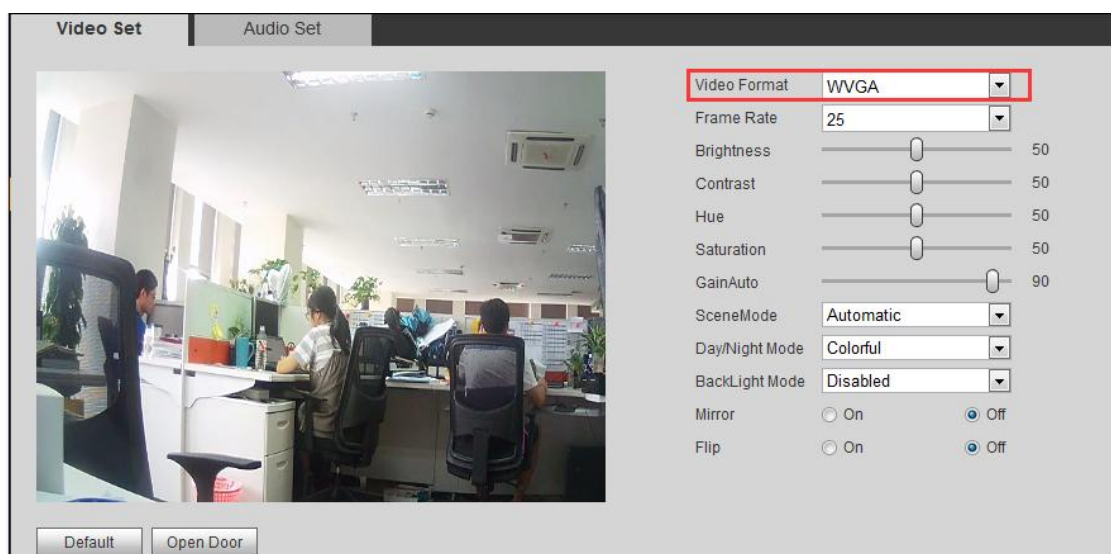

Figure 3- 3
- Step 2. In WEB interface, select System Config>Video Set, set video format as WVGA as in Figure 3- 3.